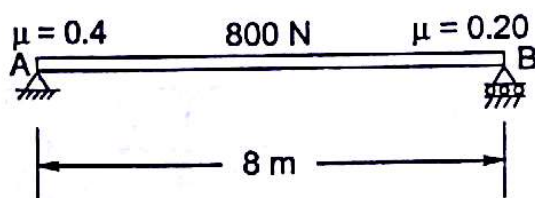

Fig. 6.20
- 6.2 A bar of weight 800 N, 8 m long rests on a stationary support A and on a roller support at B, as shown in Fig. 6.20. The static coefficient of friction at A is 0.4, while the dynamic coefficient of friction of roller support B is 0.20. If support B is moved at constant speed towards left, how far does it move before the bar begins to move.